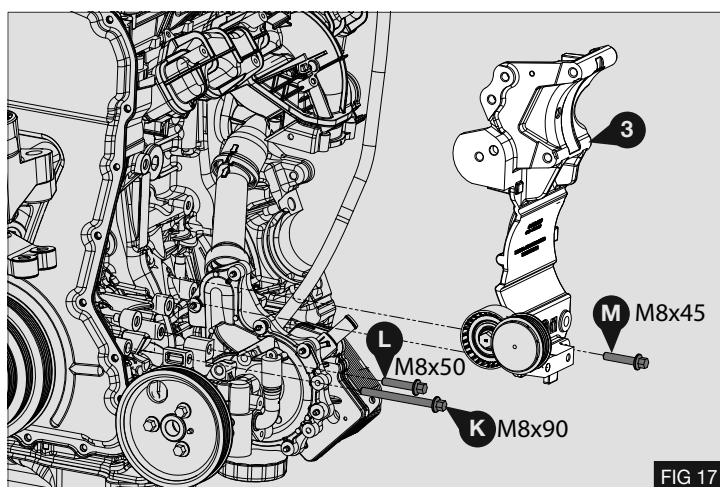

FIG 17
3. Insert bracket assembly (3) from above between the PAS pump and the engine block. Ensure locating dowel is correctly seated into the engine block, secure lower part of bracket using the original fasteners (K) (M8x90), (L) (M8x50) and (M) (M8x45) - do not tighten at this stage - Fig 17
Torque bolts (K) (L) (M) to 23Nm / 17 Lbft - Fig 17